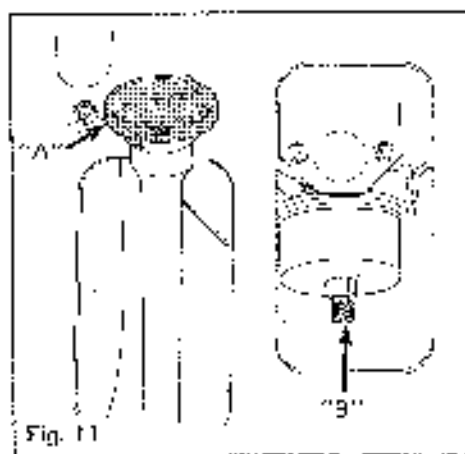

Fig. 11
operating position (wheels and scraper blade on the ground). Clean dirt and/or snow from around opening (A), Figure 11. Keep oil level to "FULL" mark on dipstick. Refer to Engine Manual for proper procedure to drain and refill engine crankcase. The drain plug (Q), Figure 11 is located on backside of unit in the bottom left-hand corner. Refer to Engine Manual and/or BEFORE OPERATION instructions for proper type oil and quantity.
4 CYCLE ENGINE - The engine has been pre-set to run at 3600 RPM. Turn high speed adjustment needle (B), Figure 11, to regulate flow of gasoline to the engine. For complete adjustment procedure, refer to Engine Manual.